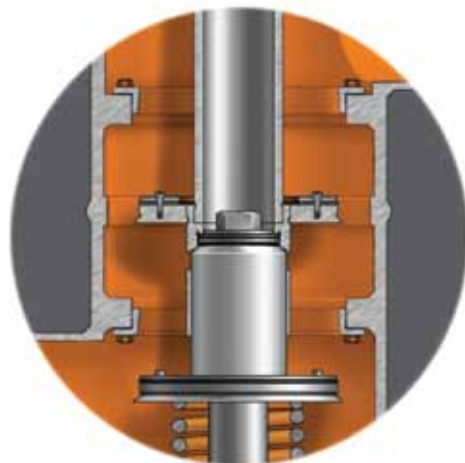

Figure 3
3. With the vent closed, the system continues to stroke, pushing the inlet block open, so that gas begins to flow. A travel stop halts valve movement after full stroke is achieved. (Figure 3)
1. To close the valve and open the vent, pilot air is exhausted from the actuator. Return springs drive the inlet and outlet valves toward their seats. (Figure 3)